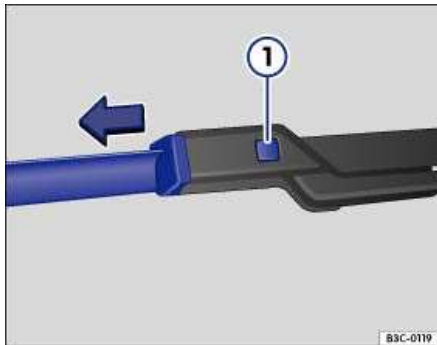

Fig. 14 Changing a front windshield wiper blade.
- Hold down the release button, ⇒ Fig. 14 (1), and pull the wiper blade in the direction shown (arrow).